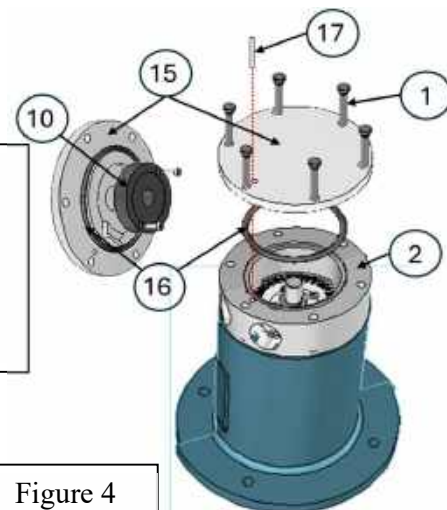

Figure 4
4. Remove the cover (15) from the pump head (2) unscrewing the screws (1) (Figure 4). Remove the elastic centring pin (17) and replace it if necessary. Check the cover (15) and the O-ring (16) in the cover for the state of wear and replace them if necessary.